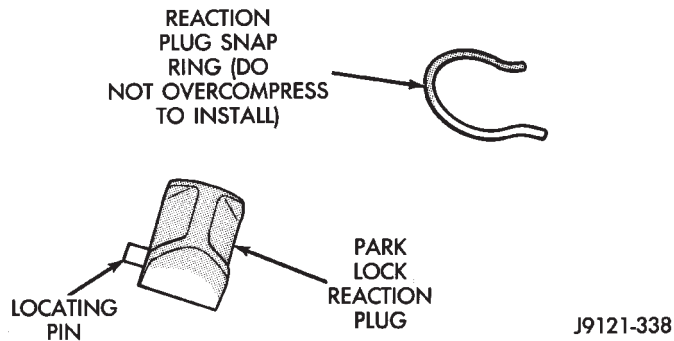

Fig. 238 Reaction Plug Locating Pin And Snap-Ring
- (1) Position park pawl and spring in case and install park pawl shaft. Verify that end of spring with 90° bend is hooked to pawl and straight end of spring is seated against case.
- (2) Install pawl shaft retaining bolt. Tighten bolt to 27 N·m (20 ft. lbs.) torque.
- (3) Install park lock reaction plug. **Note that plug has locating pin at rear (Fig. 238). Be sure pin is seated in hole in case before installing snap ring.**